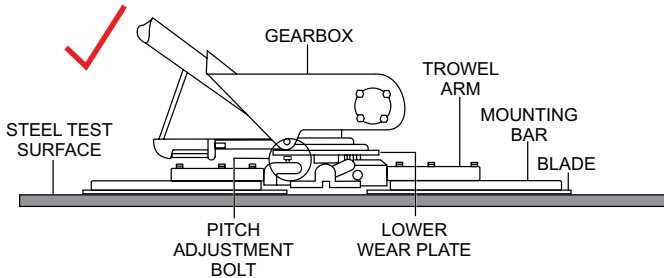

Figure 55. Correct Blade Pitch (Flat)
- Pitch the blades as flat as possible. The pitch adjustment bolts (Figure 55) should all barely make contact (0.10 inch max. clearance) with the **lower wear plate** on the spider. All pitch alignment bolts should be spaced the same distance from the lower wear plate. If one is not making contact, adjustment will be necessary.